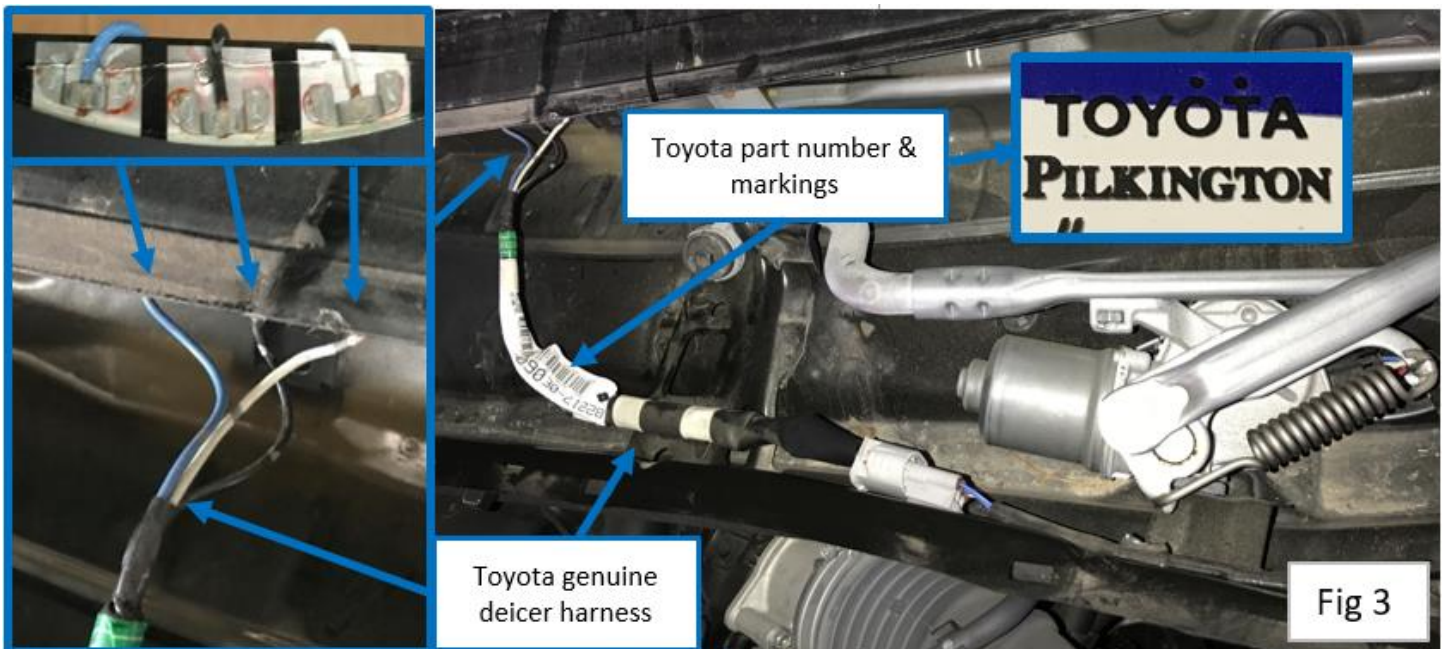

Fig 3
- 2) Check for non-genuine Toyota windshields. Toyota genuine windshields will be marked "Toyota" on the glass and have a Toyota part number on the deicer harness (Fig 3).